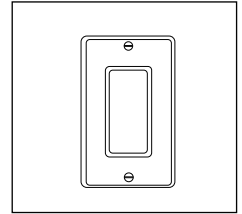

Figure 1
1. Wall switch light memory: (Figure 1)
Low-profile use (Figure 1)